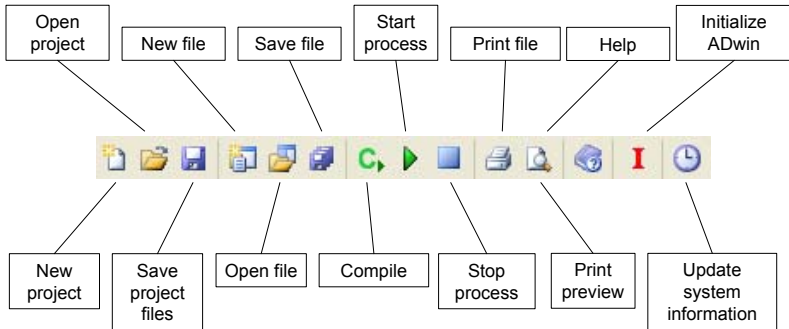

Fig. 2 – The tool bar
- The tool bar and the editor bar (see fig. 2).